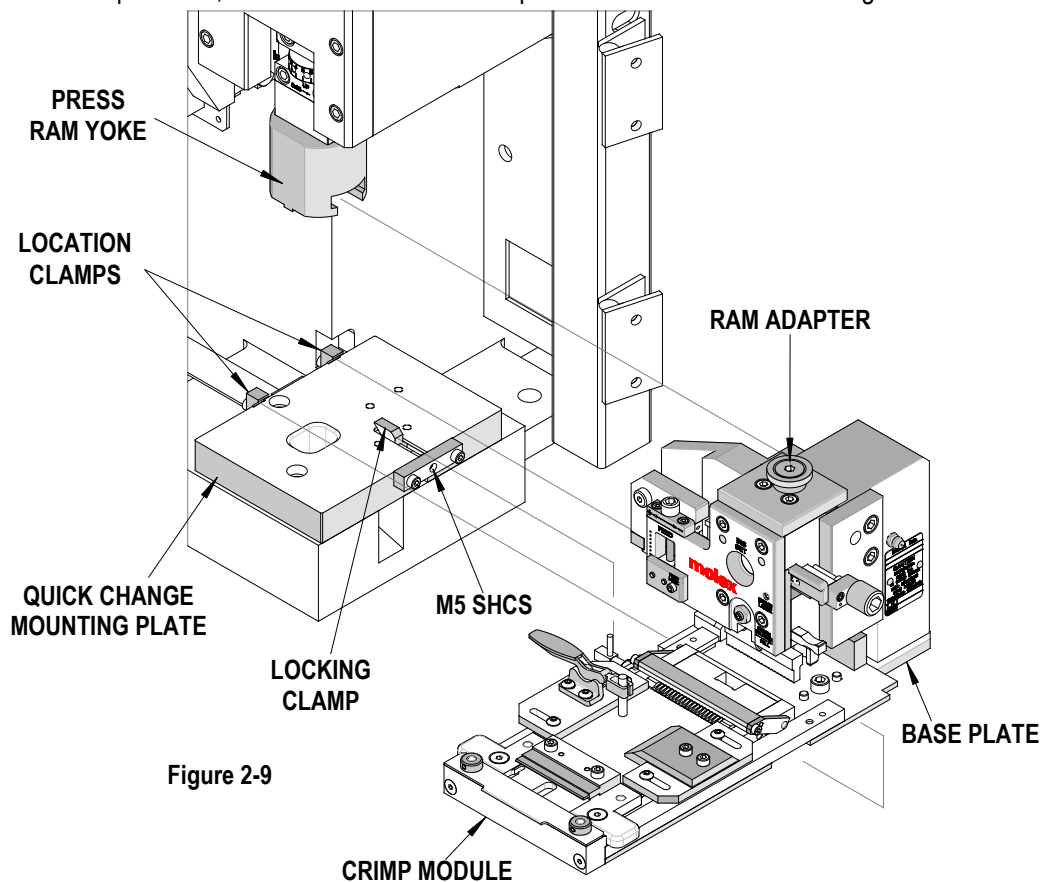

Figure 2-9
- e. Slide the Crimp Module to the left until the two notches in the base plate engage against the location clamps. See Figure 2.9.